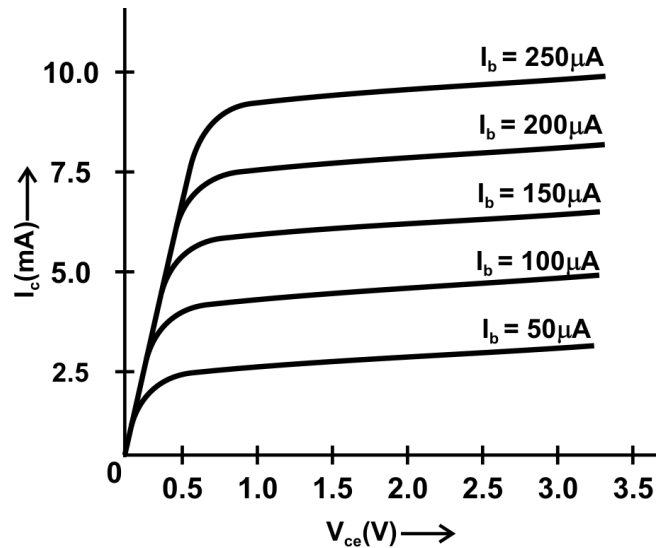

Fig. 2.7 Output characteristics of transistor
- Similarly, output characteristics can be obtained at $I_b = 100 \mu\text{A}$, $150 \mu\text{A}$, $200 \mu\text{A}$, Following points may be noted about output characteristics: Fig. 2.7